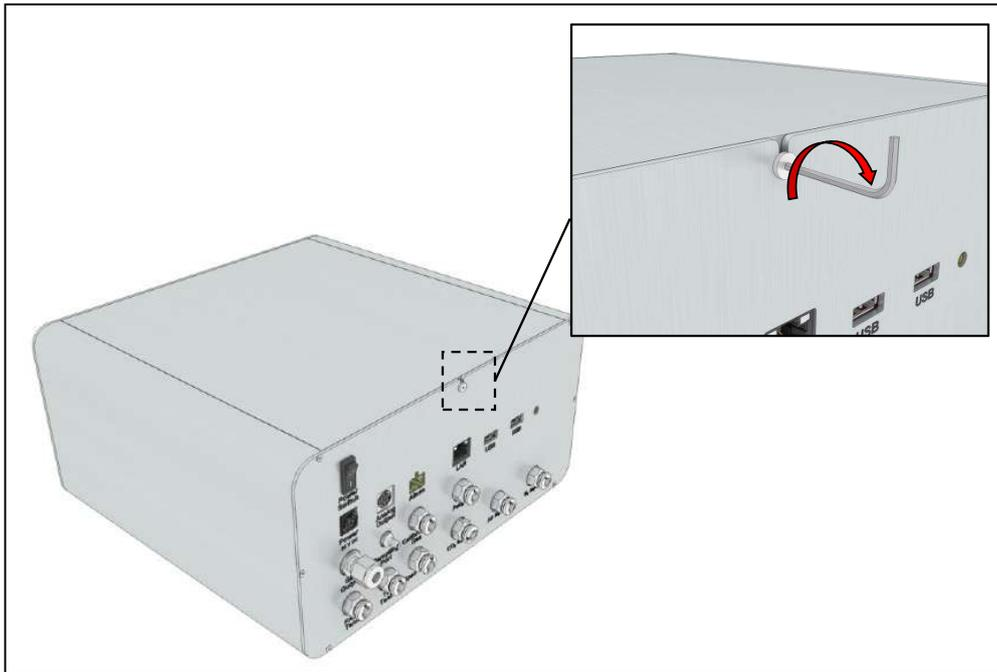

Figure 116. How to thread the cover screw
7. Tighten the screw clockwise by using a hexagonal key (1.5mm) as shown in Figure 116.